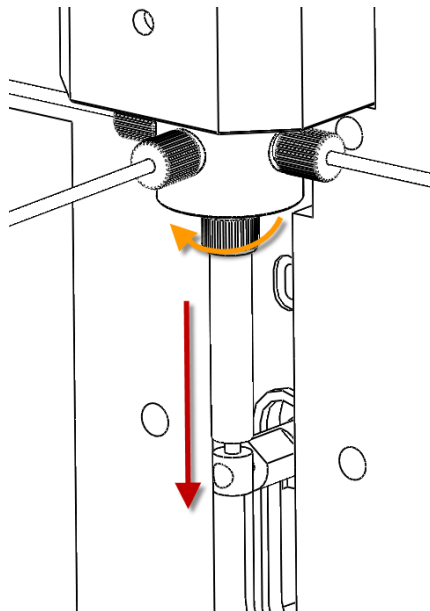

Figure 5-7 To Replace the Syringe of L-3320 (2)
3. Remove the connecting thread connecting the top of the syringe and the valve (as shown in Figure 5-7);